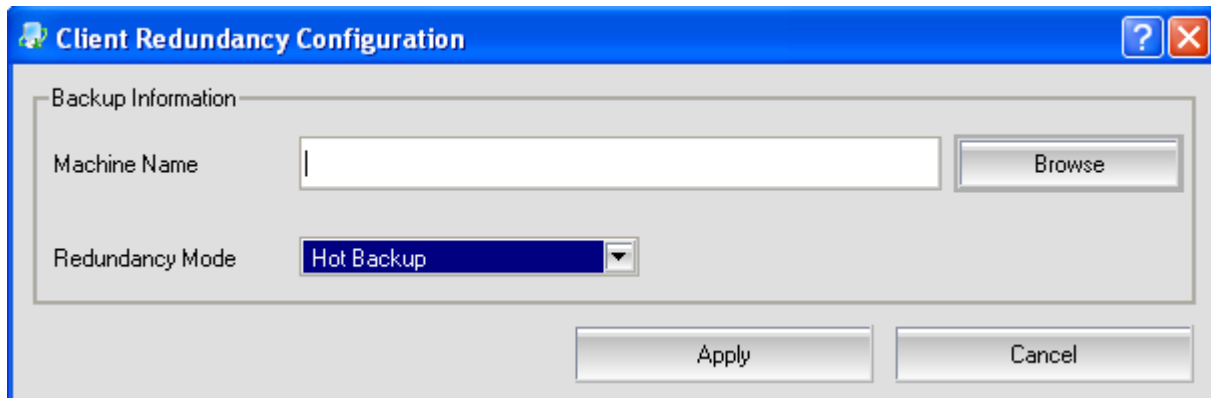

Figure 23: Client Redundancy Configuration Dialog
- HMI Log Event: As shown in Figure 23, this table displays log messages of all configuration operations.